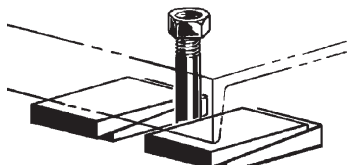

Figure 2-2
3. Support the baseplates on metal shims or wedges having a small taper. (Refer to Figure 2-2)
tion bolts. (Refer to Figure 2-2)